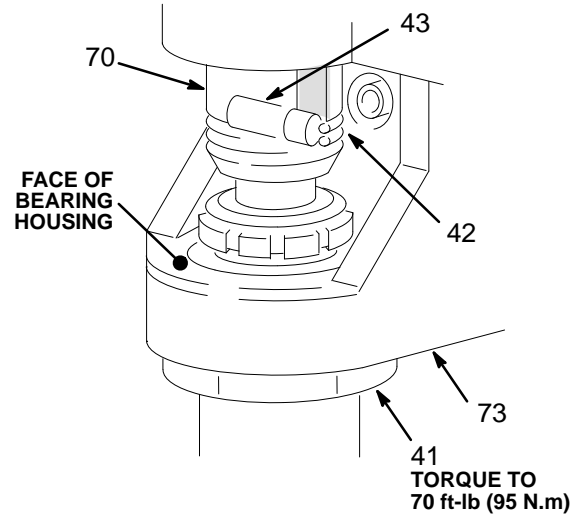

Fig 33-1
14. Screw the displacement pump about 3/4 of the way into the drive housing (73). Hold the pin (43) up to the pin hole in the connecting rod assembly (70) and continue screwing in the pump until the pin slides easily into the hole. Back off the pump until the top threads of the pump cylinder are flush with the face of the drive housing and the outlet nipple (39) is facing back. Push the retaining spring (42) into the groove all the way around the connecting rod. Tighten the locknut (41) very tight – about 70 ft-lb (95 N.m) – with a 1-3/4 in. open end wrench and a light hammer. See Fig 33-1 and 33-2.
Be sure the retaining spring (42) is firmly in the groove all the way around, to prevent the pin (43) from working loose due to vibration. See Fig 33-1.